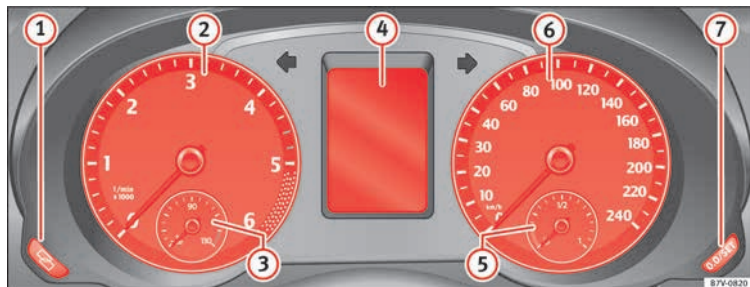

Fig. 119 Instrument panel, on dash panel
Details of the instruments >>> Fig. 119:
» **Fig. 119** ⑦. Hold button down to scroll through the numbers quickly.
- ② **Rev counter** (with the engine running, in thousands of revolutions per minute).
Together with the gear-change indicator, the rev counter offers you the possibility of using the engine of your vehicle at a suitable speed. The start of the red area » **Fig. 119** indicates the maximum engine speed working at operating temperature. However, it is advisable to change up a gear or move the selector lever to **D** (or lift your foot off the accelerator) before the needle reaches the red zone » ④. We recommend that you avoid high revs and that you follow the recommendations on the gear-change indicator. Consult the additional information in » page 199.
- ③ **Engine coolant temperature display**  » page 279.
- ④ **Displays on the screen** » page 101.
- ⑤ **Fuel reserve display** » page 264.
- ⑥ **Speedometer**.
- ⑦ **Reset knob** for trip recorder (**trip**).
A variety of information can be viewed on the instrument panel display » **Fig. 119** ④, depending on the vehicle equipment:
The service indication is shown on the dash panel display » Fig. 119 ④.